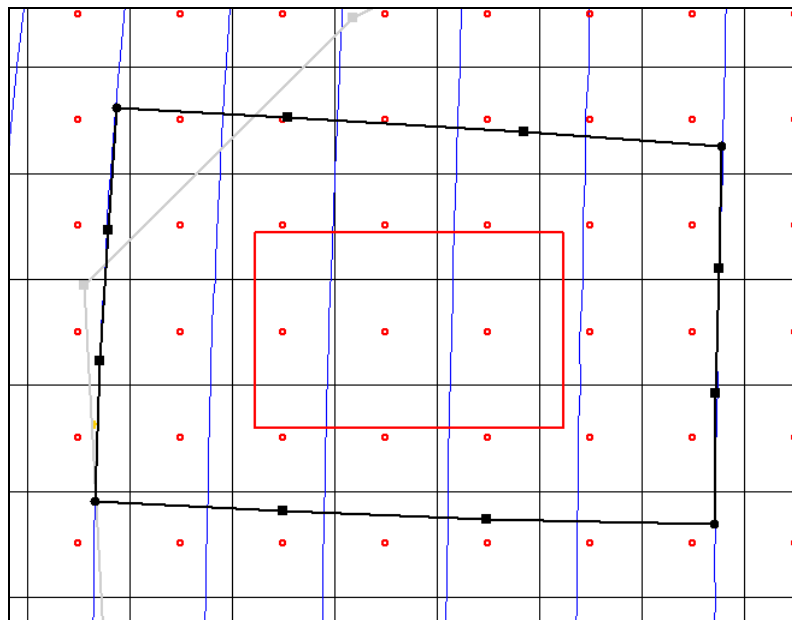

Figure 2. Arcs to be created on boundary of local model.
5. Create four arcs, two parallel to the contours, and two perpendicular to the contours as shown in Figure 2. Double click on the corners to end each arc.